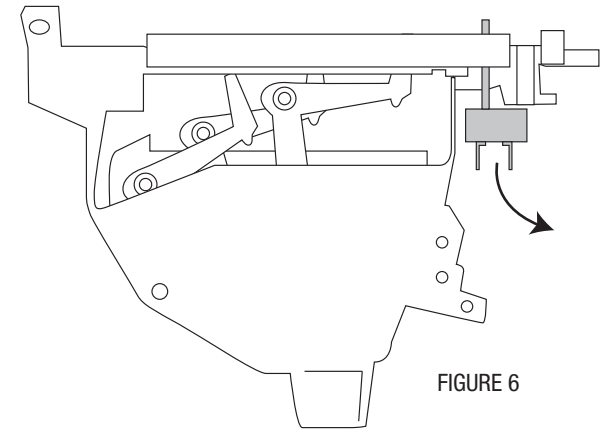

FIGURE 6
2) Attach the new blower switch with bracket as shown below, utilizing the OEM screws (see figure 6).